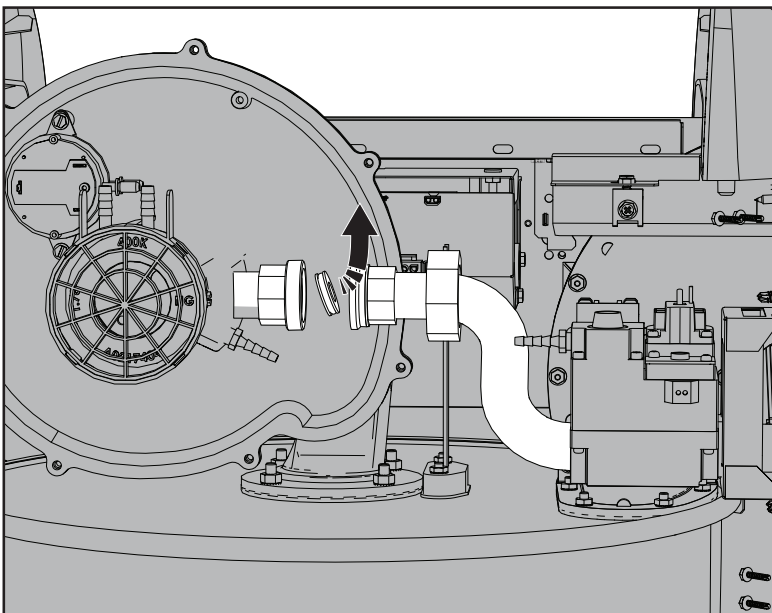

Figure 9. Remove the Gas Orifice
- Use a blunt tool, such as a key or a Phillips head screwdriver, to pry the original gas orifice and O-ring out of the union (see Figure 9). Discard the original gas orifice.